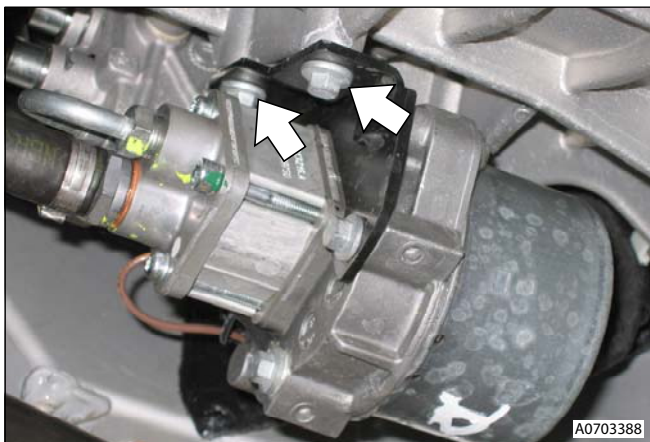

Figure 6
29. Remove pump from transaxle (bolts x2) (see Figure 6).